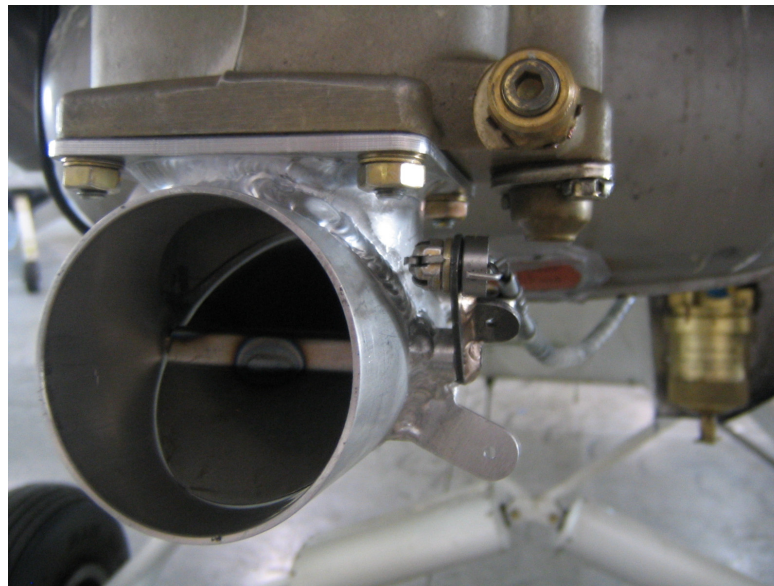

FIGURE 6: Carb Heat Cable Attachment
8. Install new Carburetor Box Assembly (SC54400-001) with existing gasket and hardware except using new lock washers (AN936-A-416). Ensure free operation of carb heat arm. Rig carb heat cable to allow 1/8 – 1/4 inch clearance between control knob and instrument panel. See Figure 6.